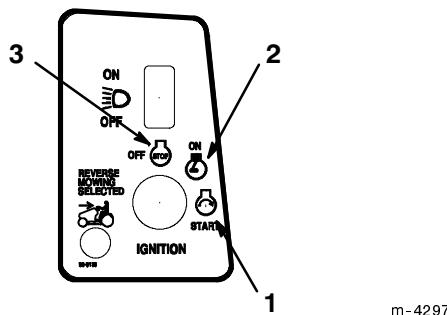

Figure 8
5. Turn the ignition key clockwise and hold it in the “START” position (Fig. 8). When the engine starts, release the key.
2. Turn the ignition key to "OFF" and remove the key (Fig. 8).